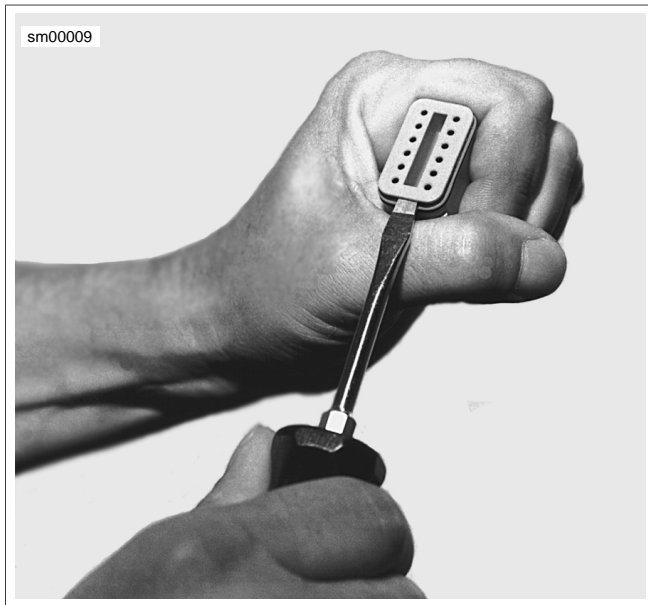

Figure A-14. Deutsch Connector: Remove Secondary Locking Wedge
- See Figure A-14. Insert a small screwdriver between the socket housing and locking wedge in-line with the groove (in-line with the pin holes if the groove is absent). Turn the screwdriver 90 degrees to pop the wedge up and remove the secondary locking wedge.